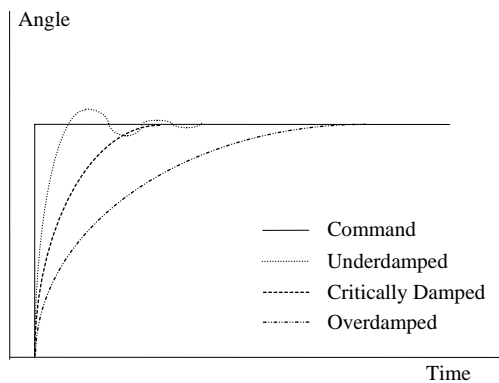

Figure 9: Step Response
The step waveform tuning can be adjusted to optimize the step time to the settling accuracy and step size (sizes) required by a particular application. Servo response to a step command can be characterized as overdamped, critically damped, or underdamped (See Figure 9). The small-signal *accuracy-optimized* tune will typically give a critically damped response for steps up to 10mR and either an overdamped or underdamped response for larger steps, depending upon their size.
- B. Monitor the position signal on an oscilloscope, set to 1V/div. Apply power to the MiniSAX. Increase the *error-proportional* gain, while adjusting the *velocity* to maintain a critically-damped response as shown in figure 9. The position signal should approach 6V_{pp}. Increase the command